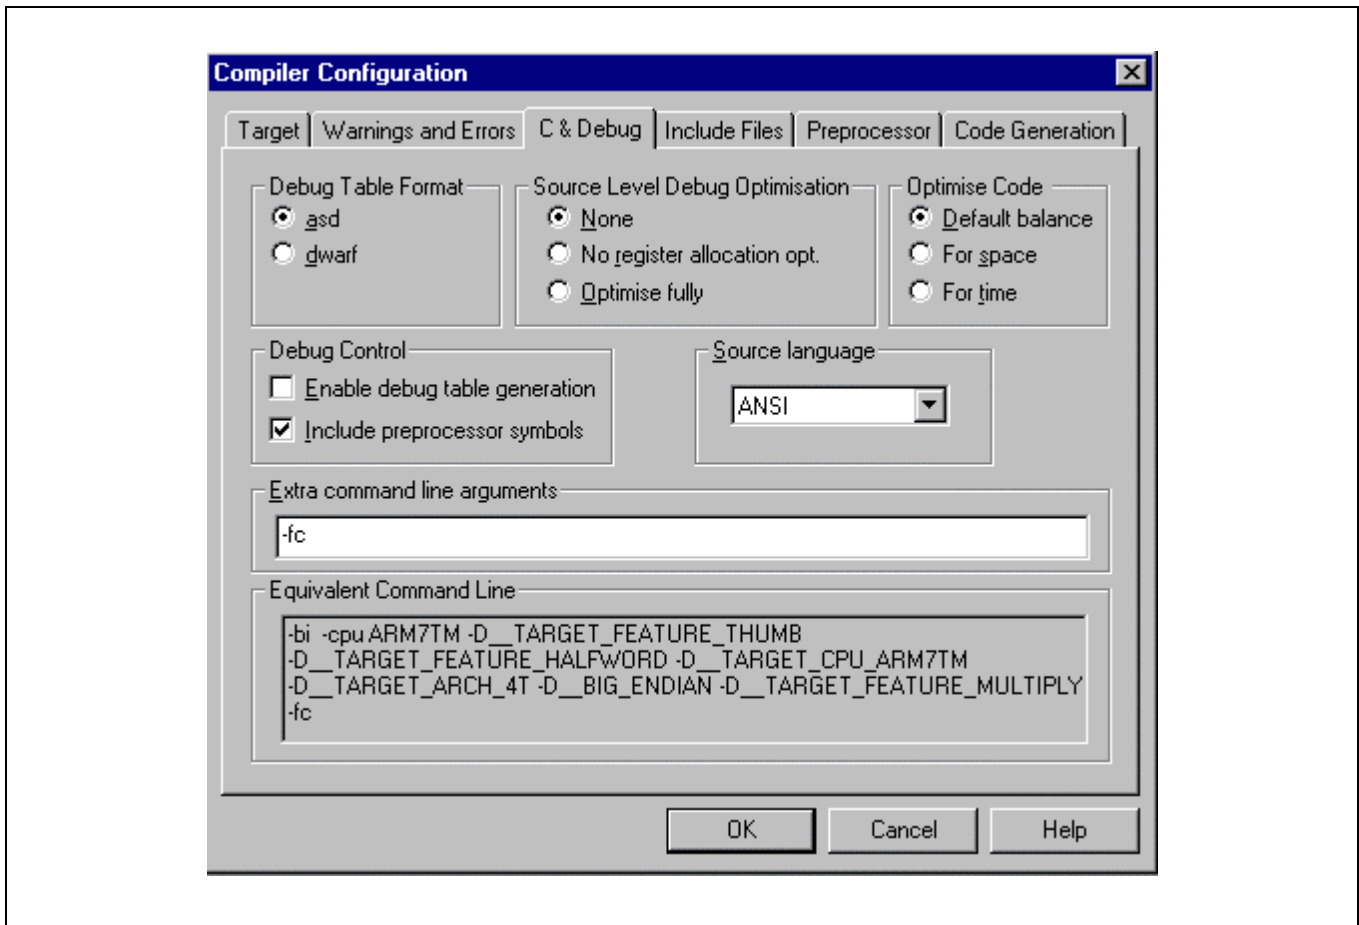

Figure 2-10. Compiler Configuration: C & Debug page
4. Write option to C&Debug page on Compiler Configuration dialog box as shown in Figure 2-10.
3. Modify Target page on Assembler Configuration dialog box (Figure 2-10).